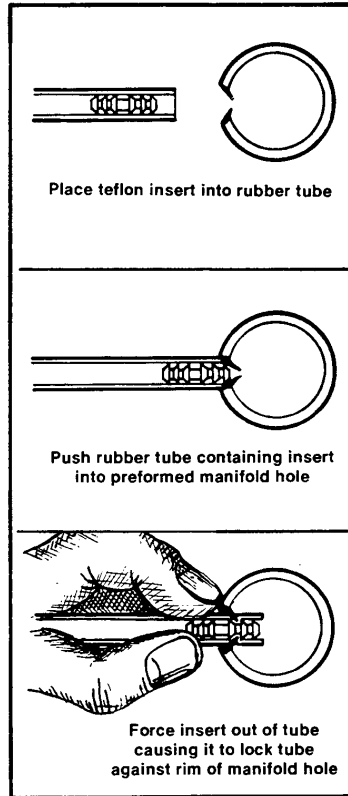

FIGURE 11—TUBE INSERTION
25. Slip the teflon inserts, provided with the Sola-roll mat, into the tubes to a depth of 1/2 inch. A drop of liquid soap may be helpful to ease insertion (Figure 11).